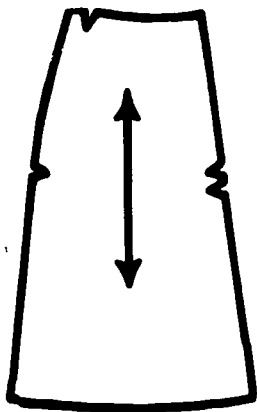

Fig. 4
**GORE** - shaped set-in section, extending in skirt from waistline to hem. Patterns of skirts are made up of gores. (Fig. 4.)